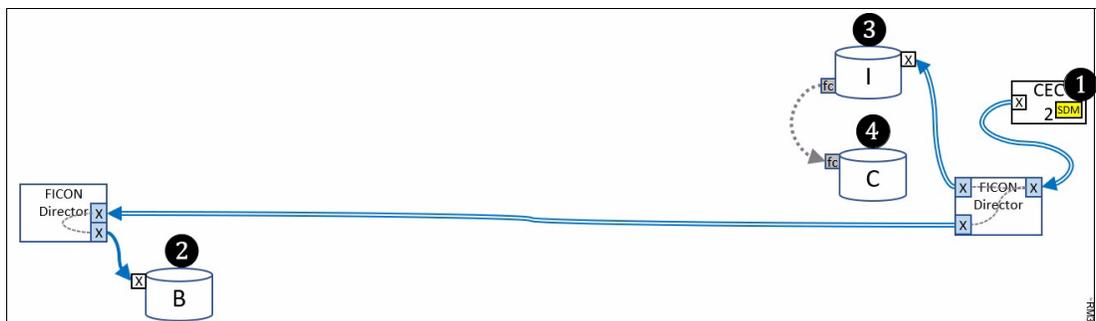

Figure 5-30 Storage replication: XRC
XRC is another replication technique that uses an application that is called Sysplex Data Mover (SDM) in a remote site. Using FICON I/O, Figure 5-30 shows that SDM (1) monitors the devices in the main site (2) for updates and copies them back to the remote site. The updates are collected on Indexed Journal devices (3), and when the updates on devices that are associated in a consistency group are all copied, they are copied by using FlashCopy to the device that holds the remote copy (4).